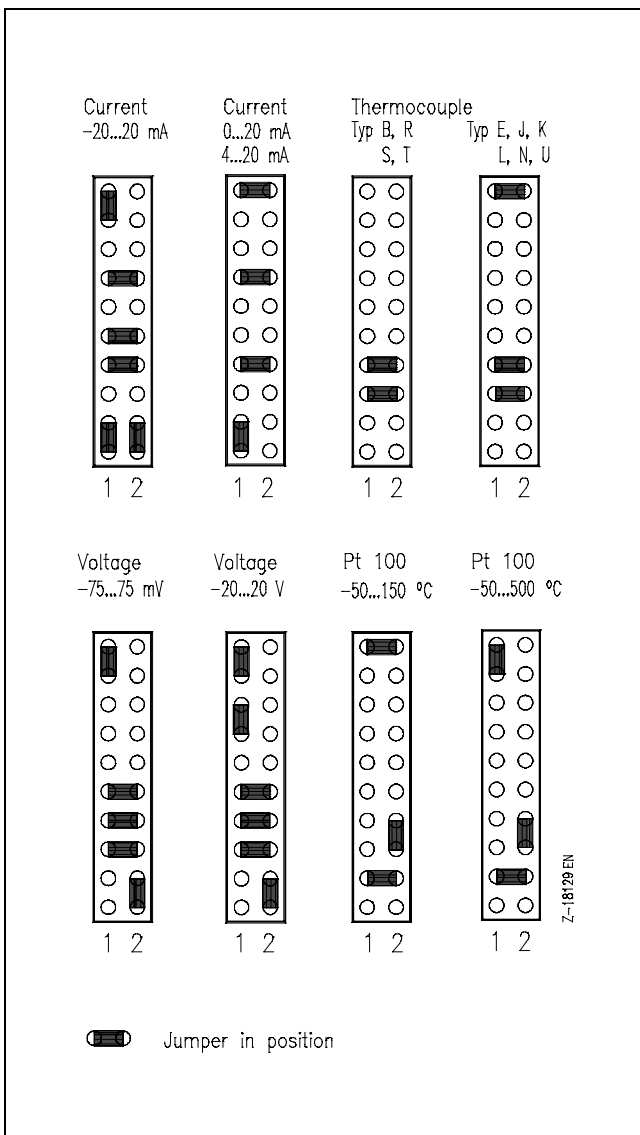

Fig. 17 Arrangement of the plug-in jumpers according to type of measurement and nominal measuring range
7. Arrange plug-in jumpers according to the desired type of measurement and nominal measuring range (see fig. 17).